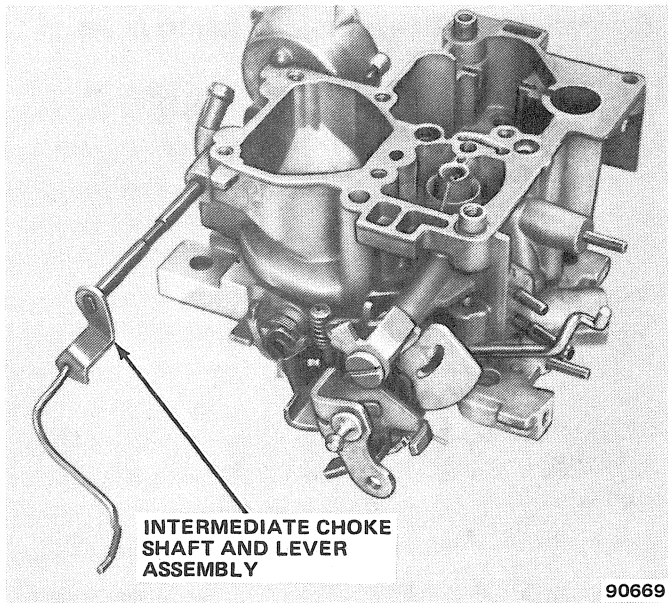

Fig. 1J-40 Model 2SE Carburetor—Intermediate Choke Shaft Removal
(21) Remove choke housing by removing two attaching screws in throttle body (fig. 1J-41).
(22) Remove fuel inlet fitting, gasket, check valve/filter assembly and spring.
(23) Disassemble remaining throttle body components.